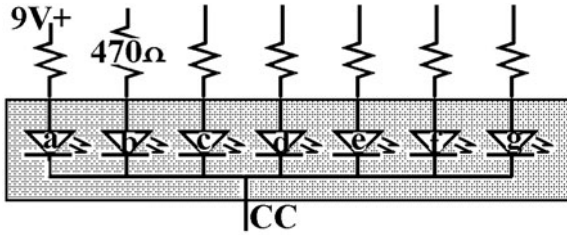

Figure L43-2
So you might have some seven-segment displays lying around. You try them out. They might work and they might not. That is because there are two major types of seven-segment displays: the CC and the CA. The type that is used here is referred to as a common cathode (CC). A proper schematic diagram for the CC is shown in Figure L43-2.